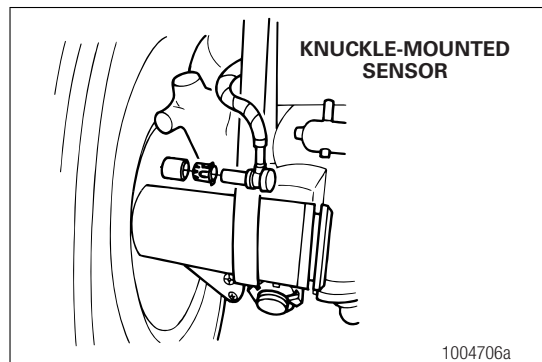

Figure 3.1
4. Remove the sensor from the sensor holder. Twist and pull the sensor to remove it from the sensor bracket. **Do not pull on the cable.** Figure 3.1.
7. Fasten the sensor cable every 12 inches. Correctly bundle and store any excess cable in the sub-frame. Figure 3.1.